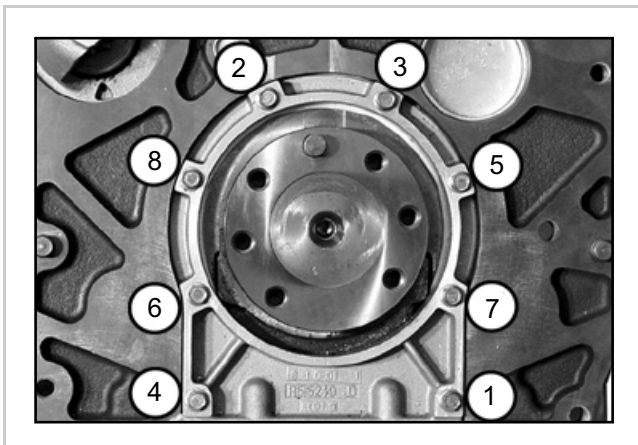

Fig. 17 (32357)
6. See Figure 17. Torque the screws to 5 N m (44 in lb) in the sequence shown.